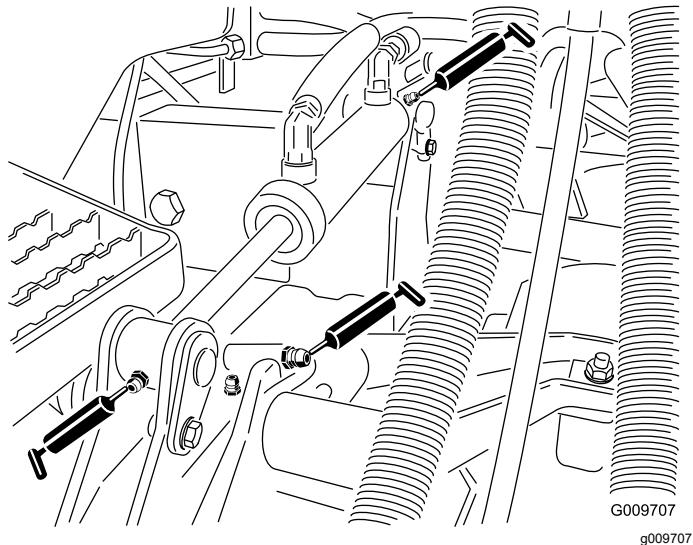

Figure 38
- Lift-arm bushings (1 per cutting unit) as shown in Figure 38
- Lift-cylinder bushings (2 per cutting unit) as shown in Figure 38